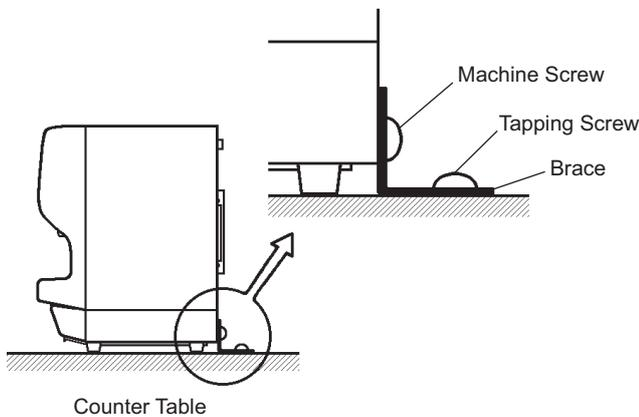

Fig. 2
- \* Secure the ice dispenser to the counter table by using the brace, machine screws and tapping screws (accessory). See Fig. 2.